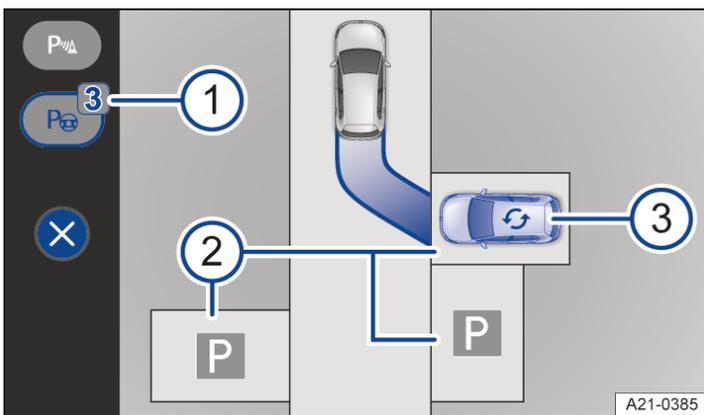

Fig. 1 Infotainment system: selecting a parking space (illustration).
Park Assist Plus automatically selects a parking space and shows this as the preferred parking space (blue vehicle) in the Infotainment system → Fig. 1 ② or ③.
The number of detected parking spaces is displayed on the  function button → Fig. 1 ①.